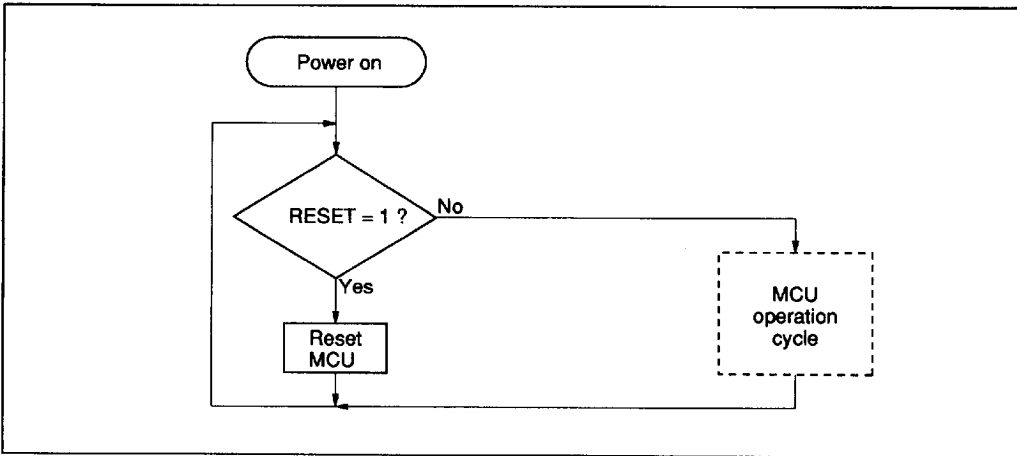

Figure 15 MCU Operating Sequence (power on)
**MCU Operating Sequence:** The MCU operates in the sequence shown in figures 15 to 17. It is reset by an asynchronous RESET input, regardless of its state.